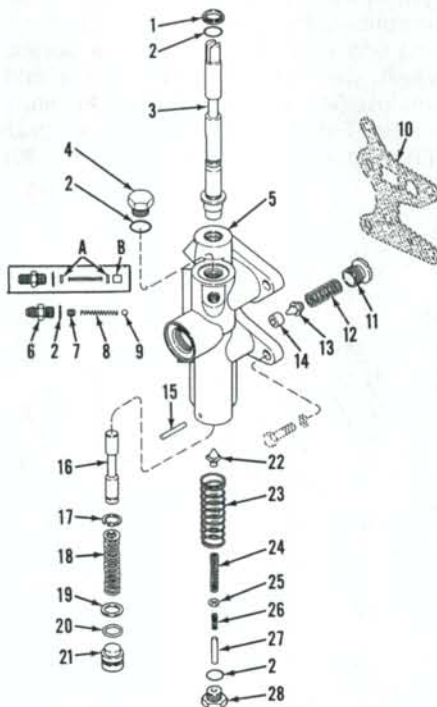

Fig. 223—Exploded view of flow divider and pto control valve for Model 2390 and 2590 tractors. "A" in insert are detent washers; "B" is detent spool.
200. OVERHAUL. Refer to Fig. 223 for exploded view. Remove pto clutch fitting (6), late model adjusting screw (7) or early model shims (A) and early model detent plunger (B) or late model detent ball (9). Remove modulator plug (28), pin (27), secondary spring (26), washer (25), primary spring (24), return spring (23) and poppet (22). Remove control spool (3) from bottom to prevent damage to wiper seal (1) and "O" ring (2), then remove wiper seal (1). Using a